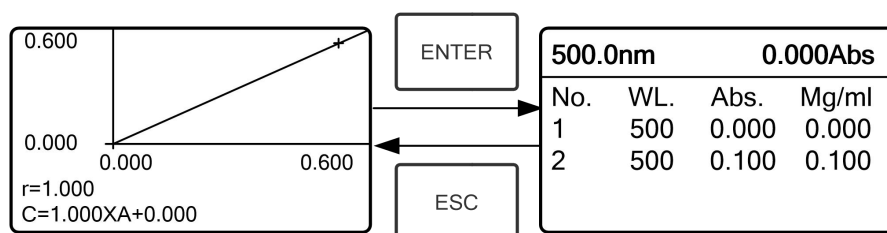
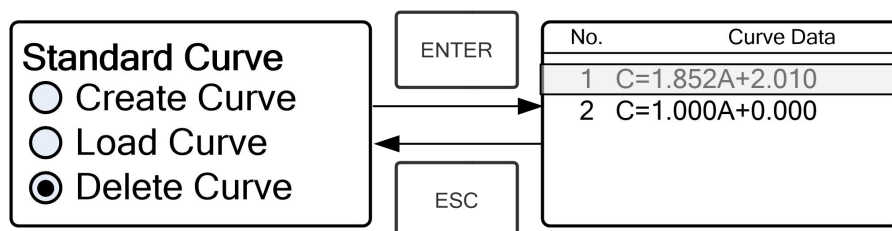

Fig. 4-14
Fig. 4-17
★ Pull the Reference solution in the light path and press ENTER to go into the continuous measurement interface. (Fig. 4-14)
- ★ Press to go into sample continuous measure interface and measure samples. (Fig. 4-14)
(7) Delete Curve
- ★ Move the cursor on “Delete Curve” and press to confirm. Then the system goes into the curve equation choosing interface. (Fig. 4-17)